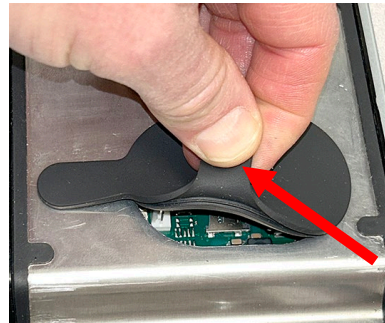

Figure 7
11. Gently lift the rubber cover on the rear of the controller and rotate gently to one side to access the SD card slot reader (see Figures 7 & 8).